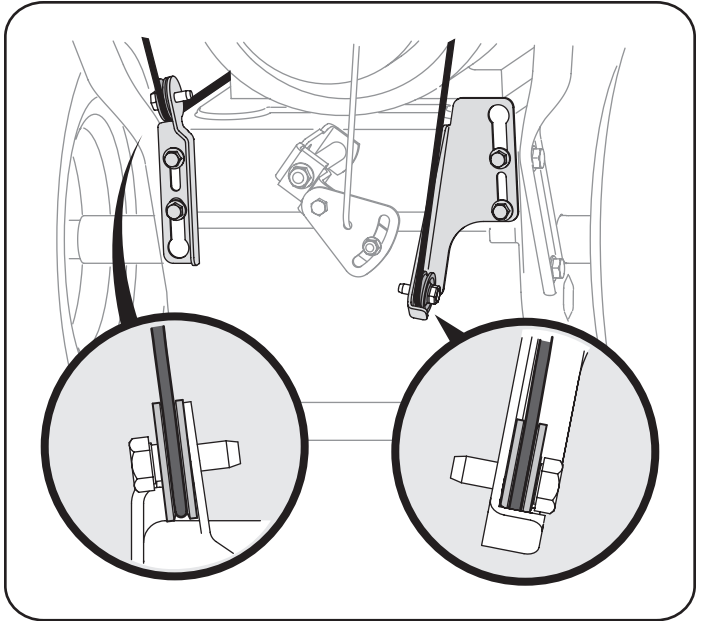
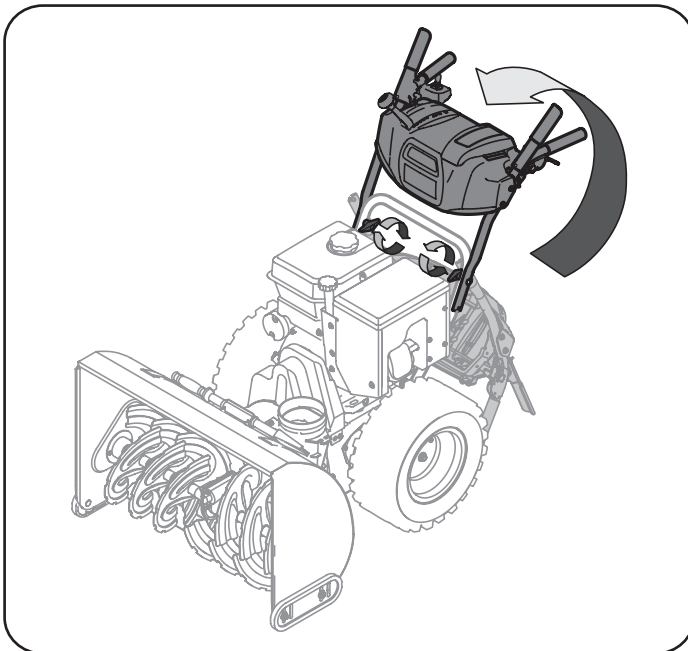

Figure 2
Figure 1
- b. Pull up and back on upper handle as shown in Figure 1. As you are raising the handle upward, make sure that both ends of the center cable are positioned properly in the brackets. See Figure 2. Align upper handle with the lower handle.